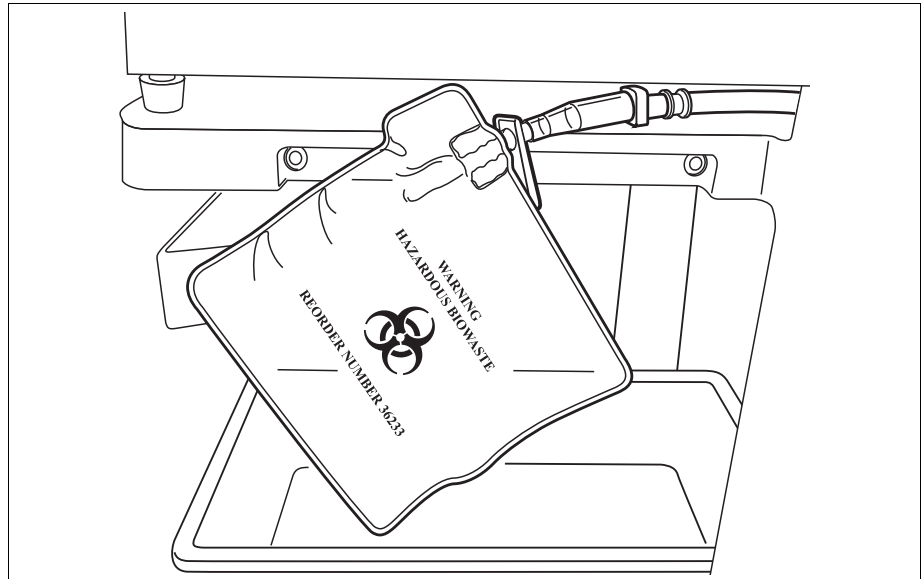

Figure 49, Allowing the biohazard waste bag to hang out of the tray
3. Ensure that there are no kinks or twists in the tubing and allow the bag and its tubing to hang from the drain tube (See Figure 49).